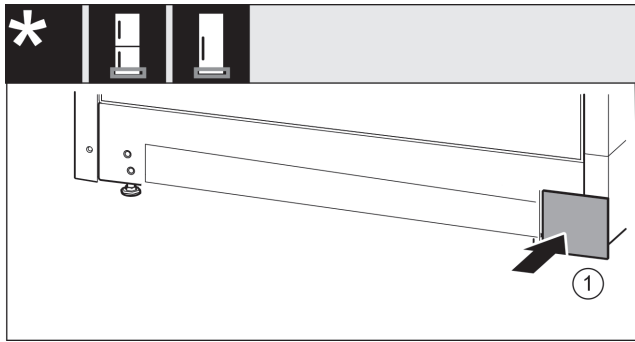

Fig. 20
- Put back the cover on the other side. Fig. 20 (1)